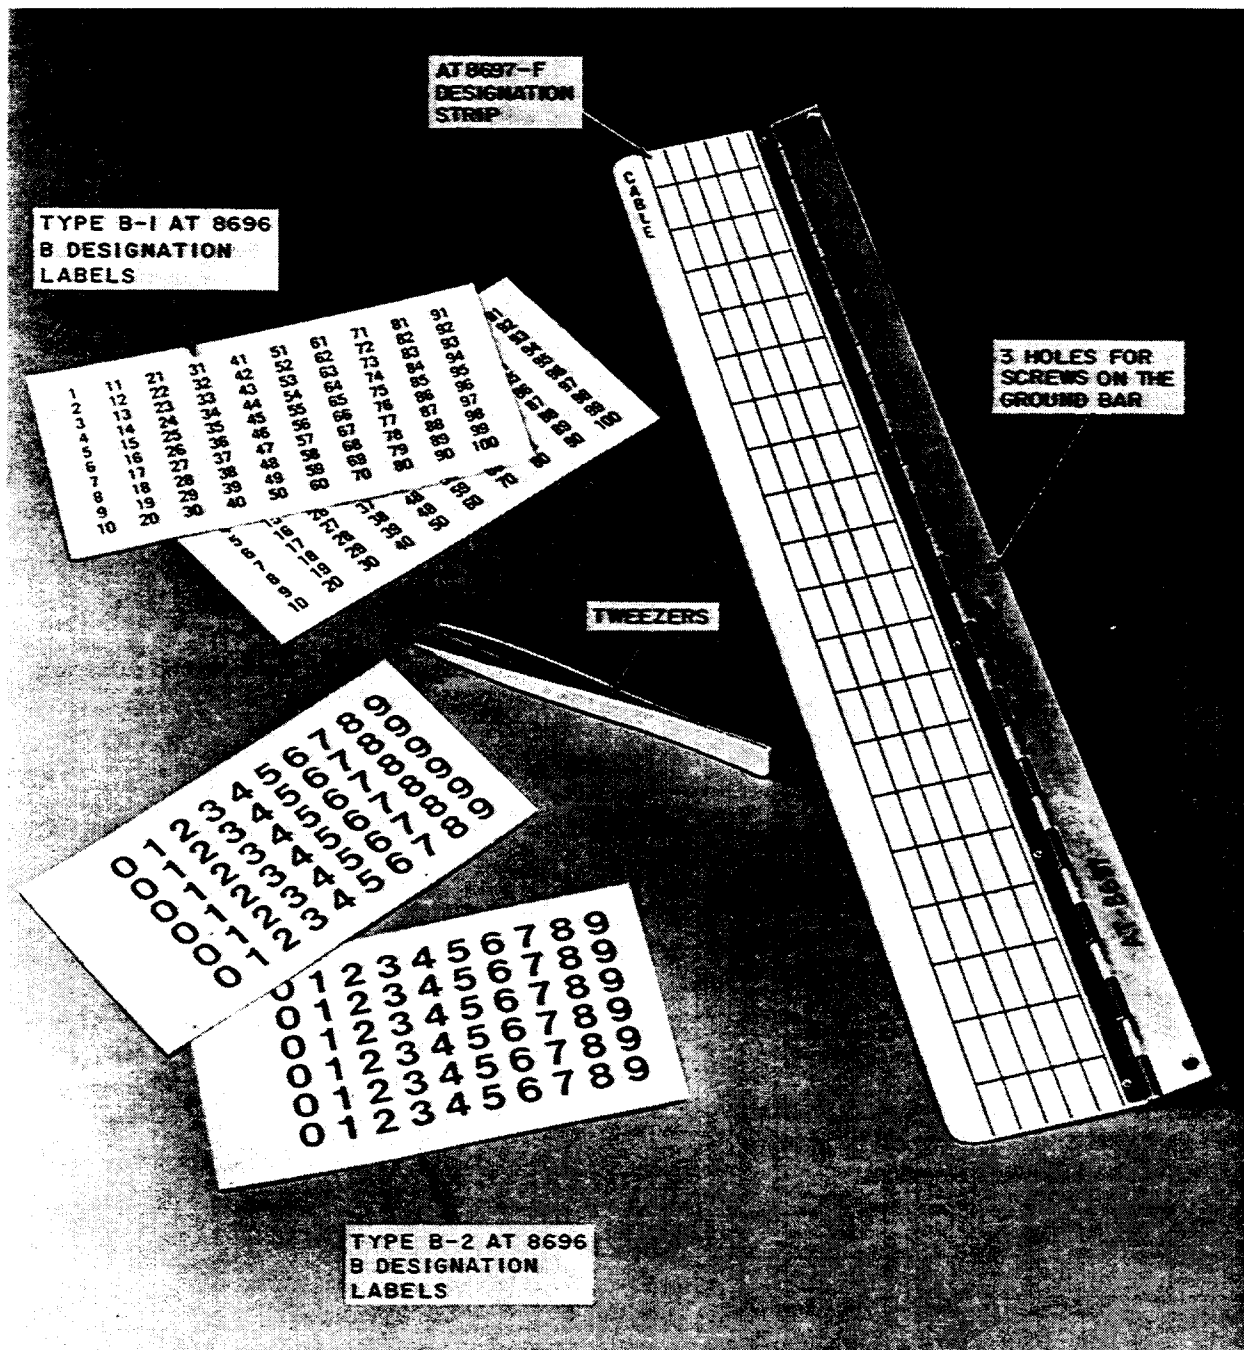

Figure 7—AT-8697-F Designation Strip and AT-8696-B Designation Label
3.17 The AT-8696-B designation labels are affixed to the AT-8697-F designation strip (Figure 7) for identifying the end of one cable and the beginning of